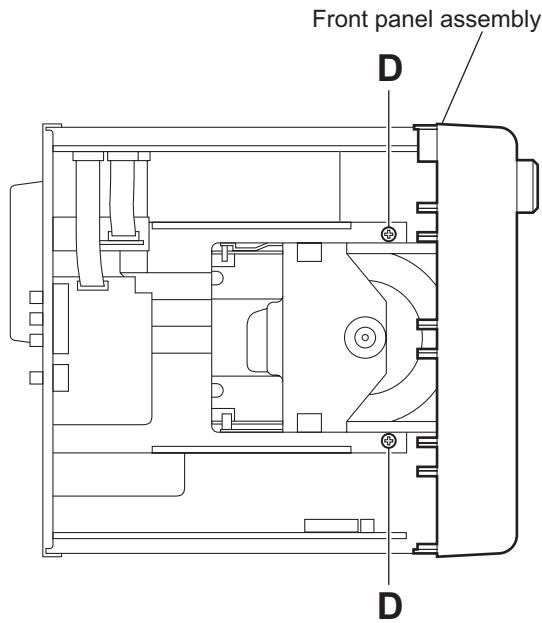

Fig.6
(8) From the top side of the main body, remove the two screws **D** attaching the front panel assembly to the main body. (See Fig.6.)